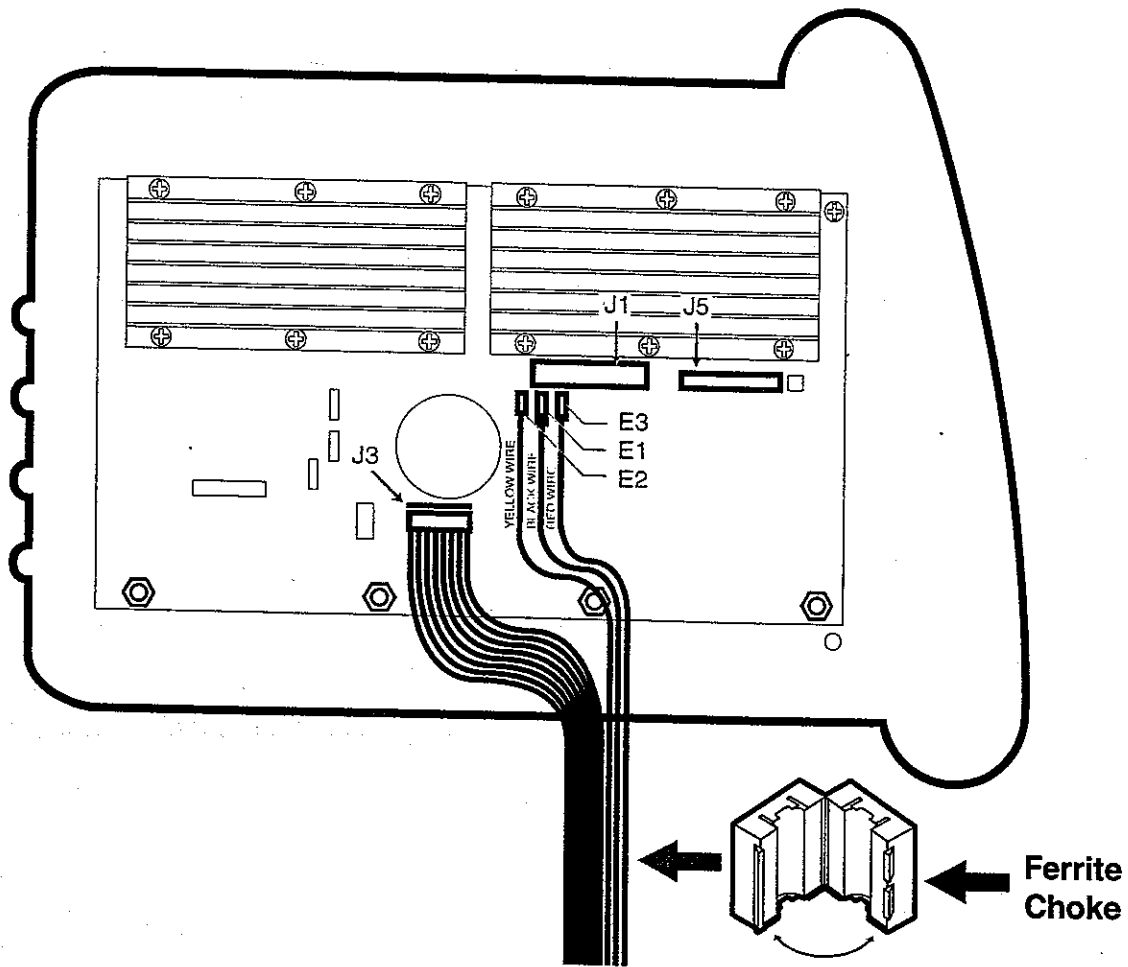

Figure 5-25. Power Supply PCBA
- 12 Remove connectors J5 and J1 from the power supply as indicated in Figure 5-25.
- 5 Move the right cover away from the ventilator and connect the cables coming from the docking bay to the power supply as indicated in Figure 5-25 and in accordance with the following: